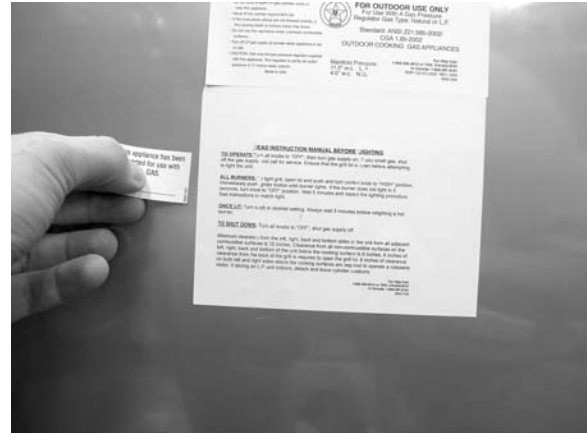

Fig 25
44. Apply conversion label 9992-462 on the grill, next to the lighting instruction label (Fig. 25).